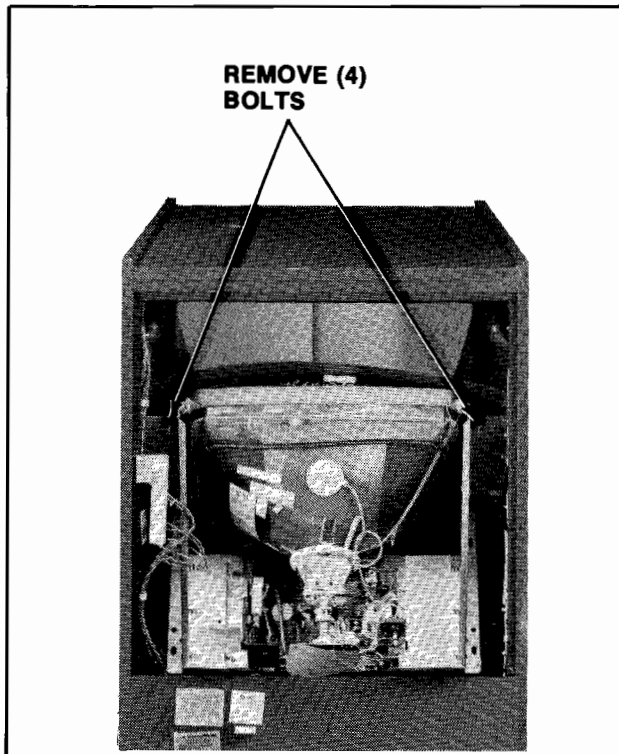

Figure 3-4 Removing the Monitor
1. **UPRIGHT MODEL:** See Figure 3-4.
- The monitor mounting bars slide on top of and against two metal guides mounted to the cabinet's right and left sides. The monitor is removed by sliding it out the back of the cabinet. See Figure 3-4.